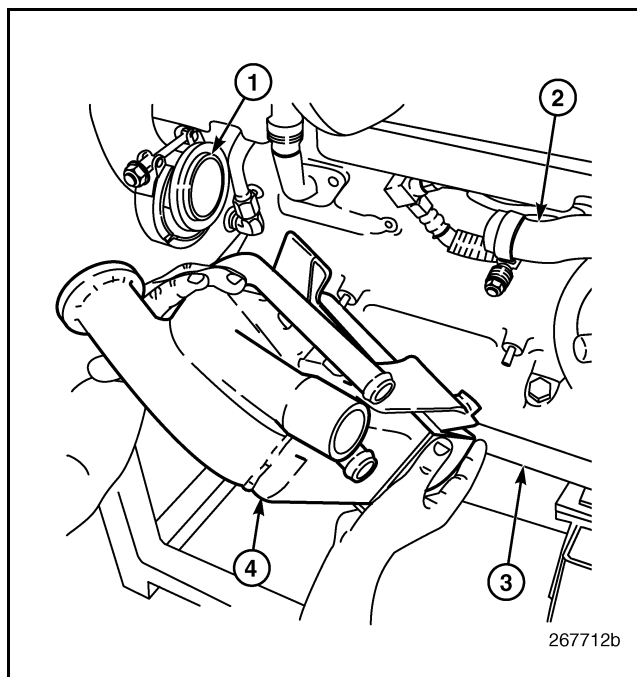

Figure 139 — EGR Cooler Removal
2. Remove the four retaining nuts, two at each side, attaching the cooler assembly to the cylinder block and remove the assembly (Figure 139). Inspect the cooler assembly for damage and test for leaks as required.